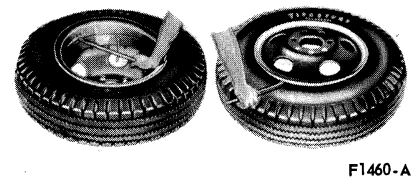

FIG. 3 Removing Ring and Removing Tire—2-Piece Rim
4. Turn the wheel over and loosen the opposite tire bead from the rim by hammering the hook end of the rim tool between the rim flange and the tire bead. Pry the tire bead away from the taper, and remove the tire from the rim (Fig. 3).